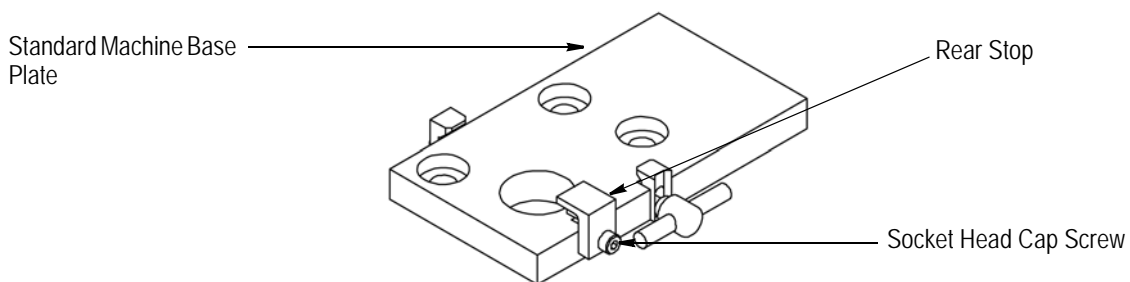

Figure 29
- a. For Air Feed Kit 1424266-1 (standard machine base plate), install the socket head screw and rear stop to the baseplate as shown in Figure 29. Then remove the back left baseplate clamp.